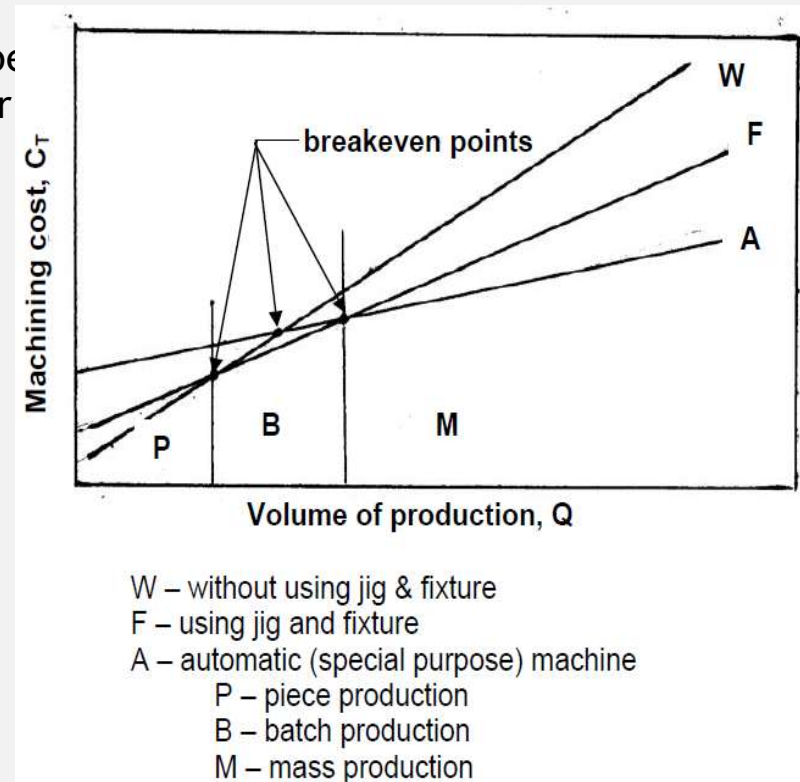

Fig. 8.1.2 Role of Jigs and Fixtures on machining cost
- This is schematically illustrated in Fig. 8.1.2.